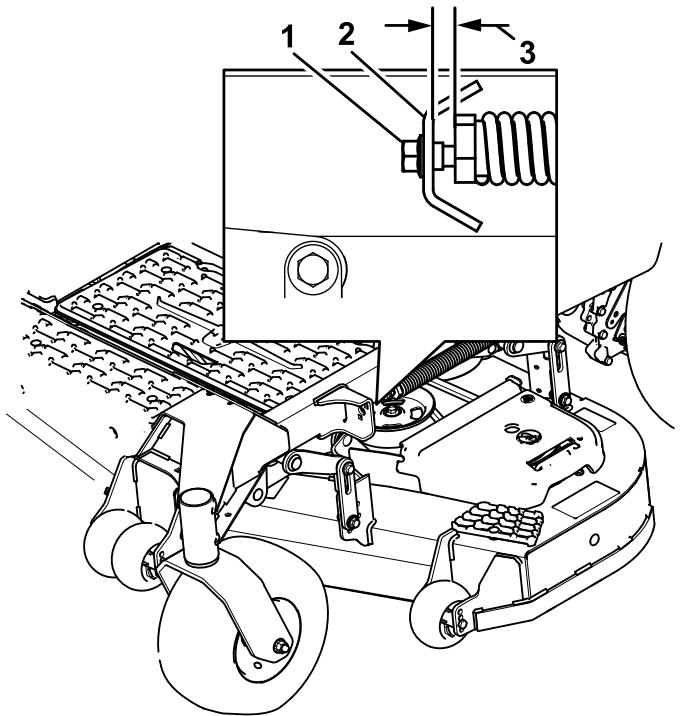

Figure 96
- 10. Slowly loosen the adjusting screw on the lift-assist spring until you can remove the screw (Figure 96).